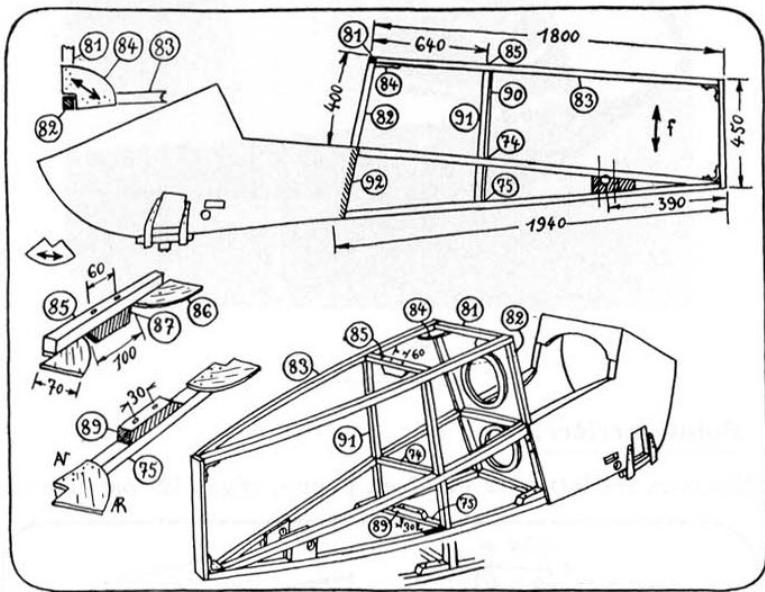

Figure 3.17: Fuselage superstructure
Put in place the vertical and horizontal members ⑪, ⑫, *fig. 3.17*, followed by the longerons ⑬ fixed to ⑪ on the front by two gussets ⑭. The longerons are joined at the rear by a screw, and held apart by the spacer ⑮ (nailed with gussets) placed about 640mm back from ⑪. The members ⑮, ⑭, and ⑯ are in the same plane, which, like the tailpost, is almost vertical when the fuselage is placed on the ground. The longerons ⑬ are affixed to the tailpost by the second angled fitting ⑸.